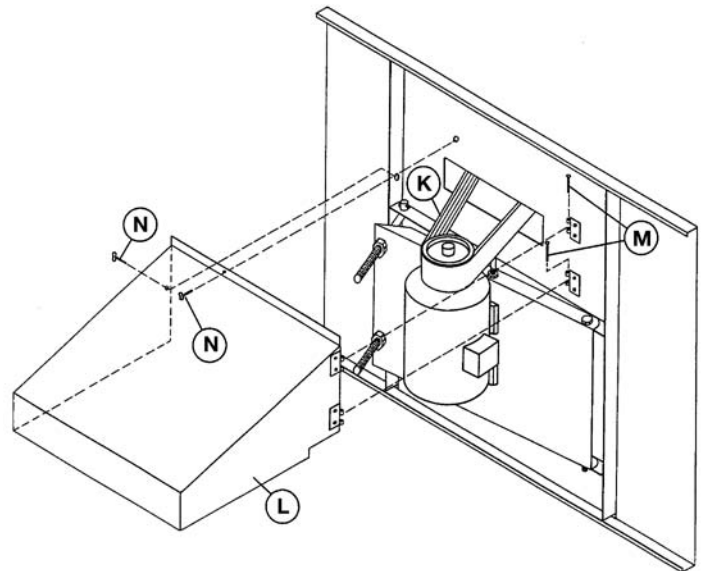

Figure 23 – Motor Guard and Powerband Belt Installation
7. Install Powerband belt **K** (Figure 23) around fan sheave and motor sheave. Tighten belt by adjusting nuts on "J" bolts. Do not over tighten the belts. The center of the belt should deflect approximately 3/4" with moderate hand pressure.
10. To install Motor Guard **L**, match up hinges and install hinge pins **M**. (See Figure 23.)
11. Close Motor Guard and install (2) wing bolts **N**.